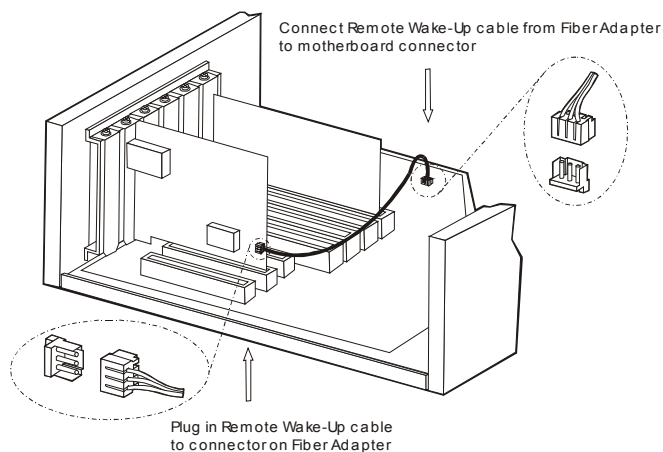

Figure 3: Connecting Wake-Up cable
- Step 3:** Prepare a Remote Wake-Up cable. Connect the cable from Fiber Adapter to motherboard connector. Refer to Figure 3 below for details.